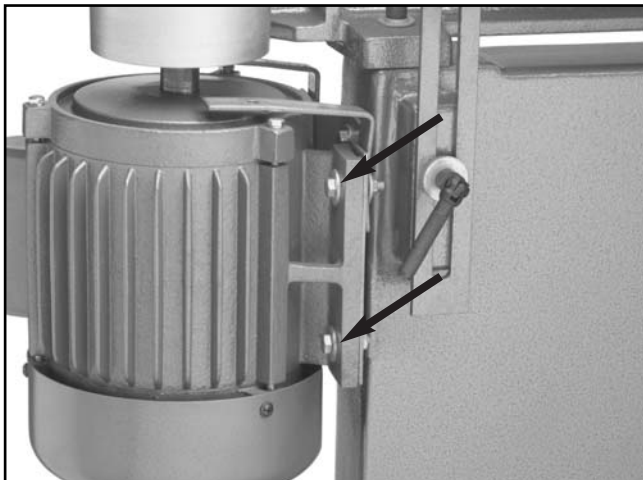

Figure 43. Two of the four motor mount bolts.
3. Loosen the four motor mount bolts/nuts that secure the motor to the motor bracket. **Figure 43** shows two of the four motor mount bolts.